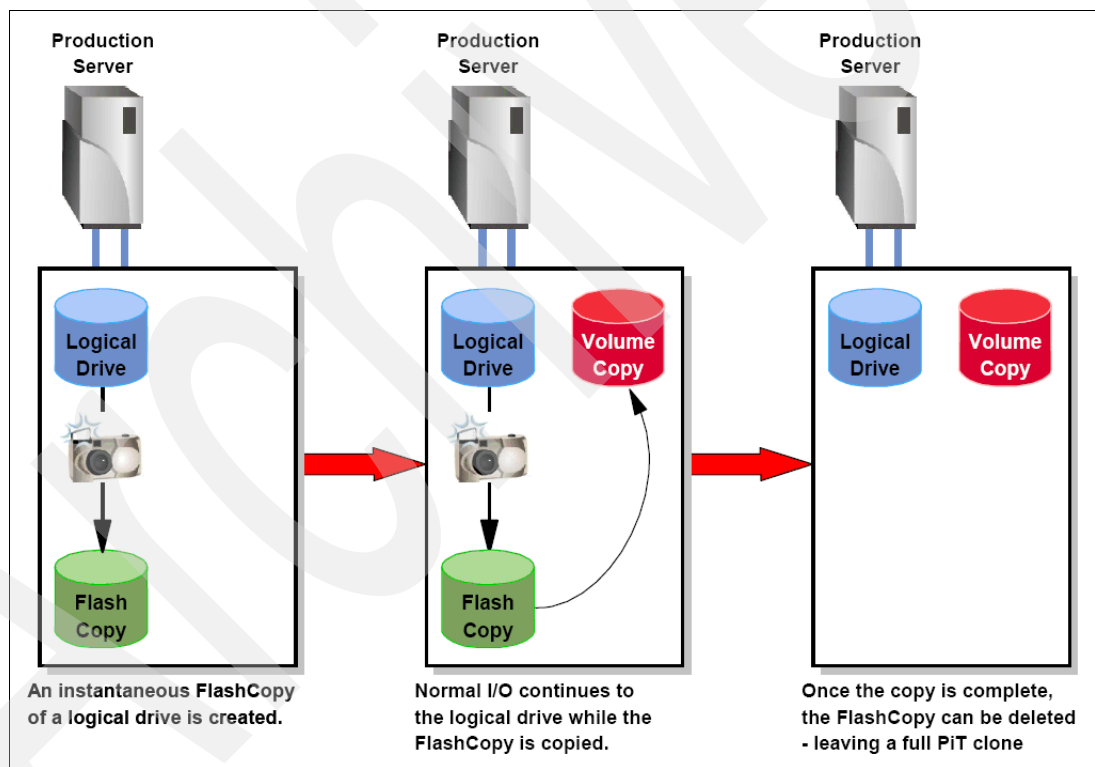

Figure 9-72 VolumeCopy integrated with FlashCopy
**Important:** Because all write requests to the source logical drive are rejected when the VolumeCopy is taking place, it is essential to minimize the time it takes to complete the copy operation. This is why VolumeCopy must always be used in conjunction with FlashCopy. In other words, first make a FlashCopy of the source logical drive, then perform a VolumeCopy of the FlashCopy (see Figure 9-72).
As shown in Figure 9-72, FlashCopy, which allows a point-in-time copy to be made while maintaining read/write access, enables a complete copy to be created without interrupting the I/O activity of the production logical drive.